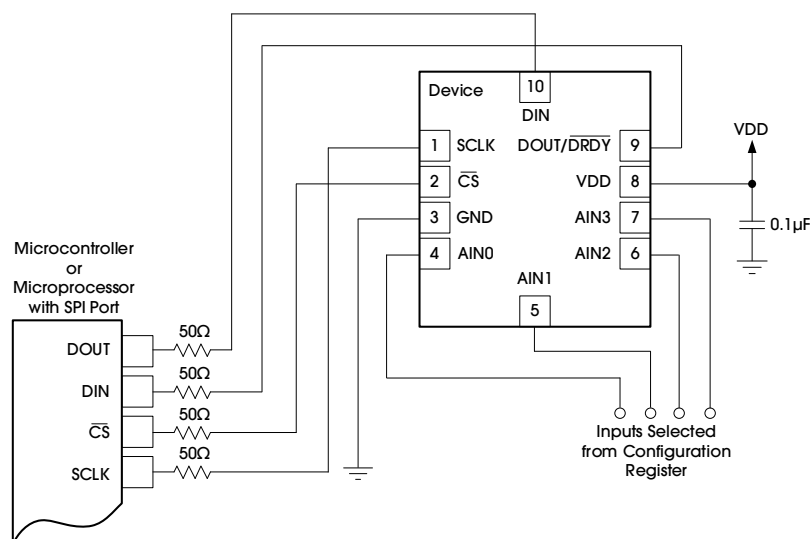

Figure 31. Typical Connections of the ADX112(Q)
The principle serial interface connections for the ADX112(Q) are shown in Figure 31.